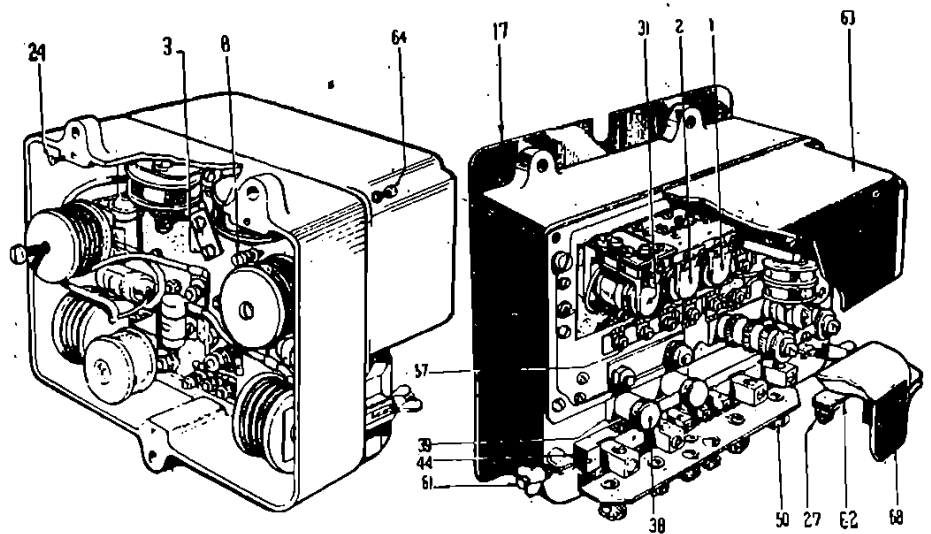

Figure 75. Control Board
The control board shown on Fig. 75 is fitted with an open regulator and separate cut-out. The regulator operates on the current voltage control system which requires a cut-out (31), current regulator (2) and voltage regulator (1). These latter two are made as one unit.